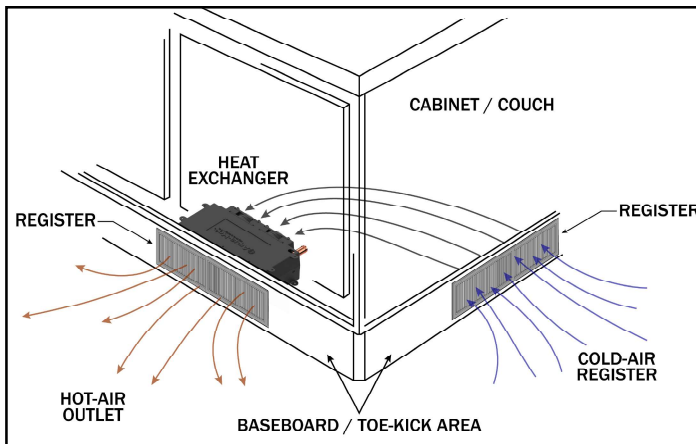

Figure 136
- Heat exchangers should be mounted as close to the hot air outlet grill as possible (reference Figure 136)